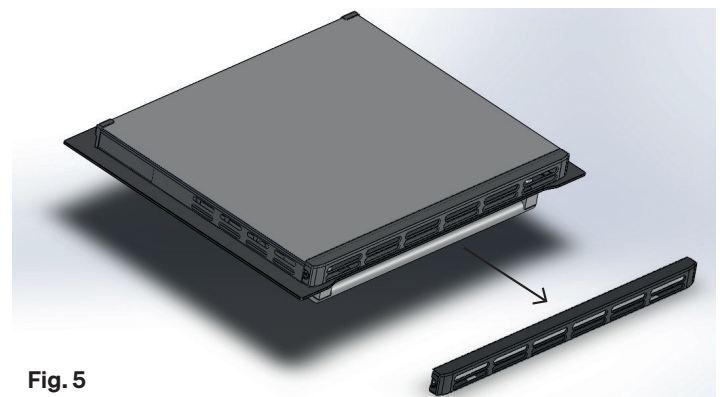

Fig. 5
- Double oven door: Remove the seal G by unscrew the no. 2 bolts (fig. 5)